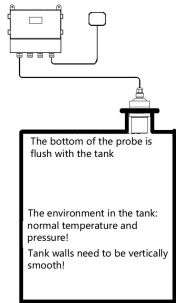
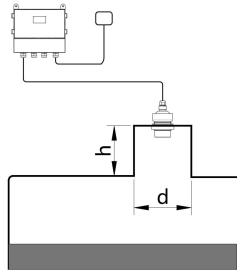

Figure 3
Figure 4
- 5) For flange mounting on tanks under normal temperature and pressure, it is best to have the probe surface of the instrument exposed inside the tank, as shown in Figure 3. If the on-site environment makes this impossible, refer to Figures 4 and 5 for the diameter of the pipe used to fix the flange. The length h should be between 100mm and 300mm, and the larger the h value, the larger the corresponding d value.